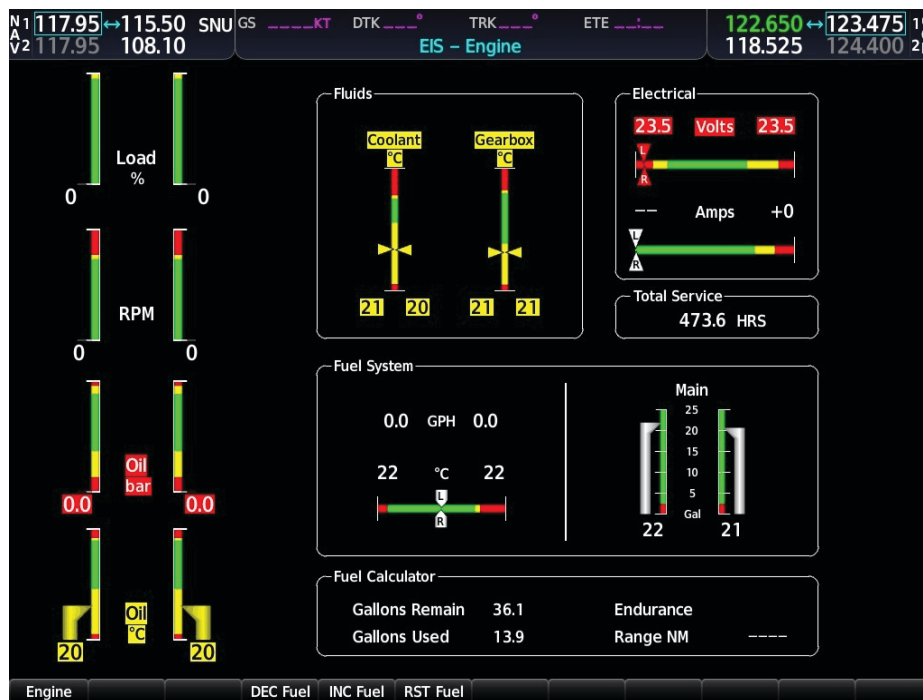

Figure 4A : MFD Full EIS Page
- If MÄM 62-254 is installed, pressing the ENGINE softkey at the bottom of the MFD will change the display of the MFD to a full engine indication system page. As shown in Figure 4A.